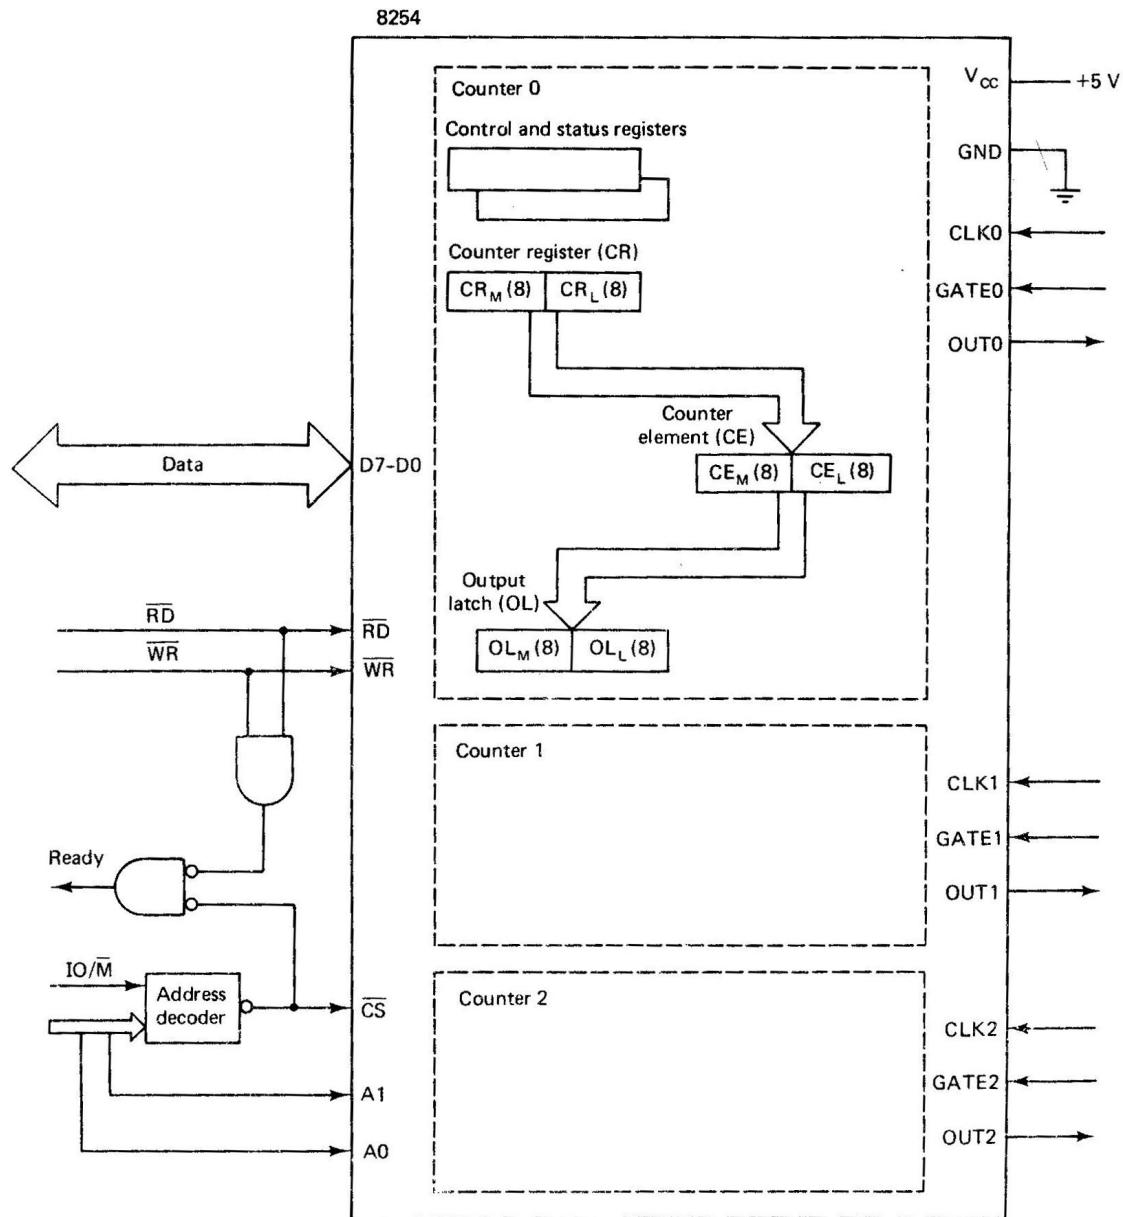

Figure 4.5: Diagram of the 8254
A diagram of Intel's 8254 interval timer/event counter is given in Figure 4.5. The 8254 consists of three identical counting circuits, each of which has CLK and GATE inputs and an OUT output. Each can be viewed as containing a Control and Status Register pair, a Counter Register (CR) for receiving the initial count, a Counter Element CCE) which performs the counting but is not directly accessible from the processor, and an Output Latch (OL) for latching the contents of the CE so that they can be read. The CR, CE, and OL are treated as pairs of 8-bit registers. (Physically, the registers are not exactly as depicted, but to the programmer the figure is conceptually accurate.)